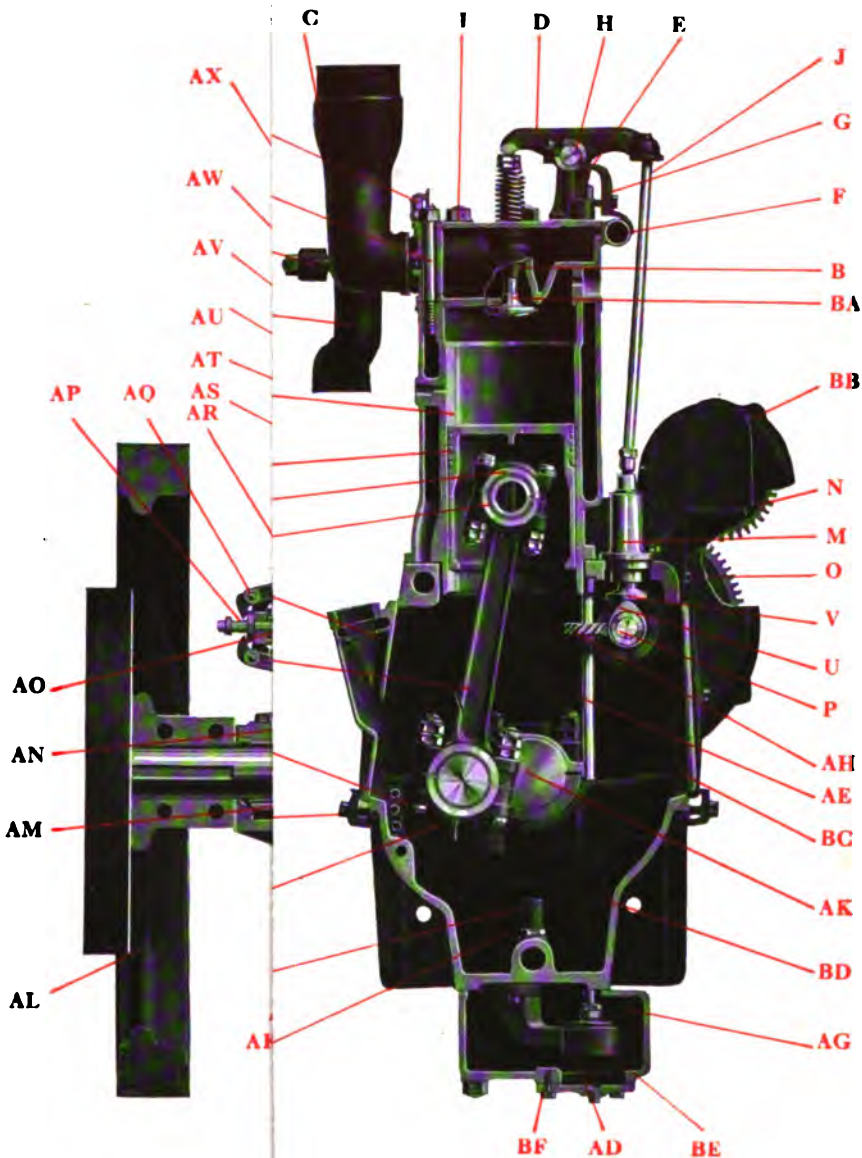

Fig. 4
- 50 — The lubrication of the "75" engine is the splash system with circulating pump. The circulating oil pump is shown in Fig. 4 as BE. A mechanical oiler is employed to deliver oil to the bottom of the pistons on the thrust side (not shown on Figs. 3 or 4).
- 53 — From the oil reservoir AG, the circulating pump BE, Fig. 4, forces the oil to the sight feed distributor AT, Fig. 3, and thence by four distributing pipes to the separate oil pits again, thus maintaining a constant level condition which is taken care of by the overflow pipe. If waste, lint or pieces of carbon clog the oil screen AD, Fig. 3, or the distributor pipes become clogged, the oil level under one or more cylinders may get low and result in damage to the piston and cylinder or bearings. The oil screen AD must be kept clean of all obstruction.
- 55 — To clean the oil screen AD, wipe the bottom of the oil reservoir AG clean and free from dirt. Obtain a clean 5-gallon oil can, remove the oil reservoir plate BF, drain and catch the oil that comes out of AG. This will give direct access to the screen AD and cleaning can be effected. If this adjustment has not entirely remedied the condition, it will be necessary to remove the oil reservoir AG and disassemble the pump BE, Fig. 4. This is accomplished by removing the taper pin in the spiral gear AH, Fig. 4. Remove the cap screw on the pump BE, drop it away from the bottom of the crankcase where it can be readily disassembled. In replacing the pump, be sure that the cap screws are set up tight and that the taper pin is replaced in the spiral gear AH firmly, and cotter pin put back securely.
- 58 — On the magneto side of the engine and opposite each oil pit a drain plug is provided. Drain plugs are also provided in the oil reservoir AG. Remove the drain plugs, catch the oil. Because of the oil tunnel on the bottom of the crankcase, the removal of the final quantity must be effected by hand. Remove plate BF on bottom of oil reservoir AG, Fig. 4, and clean bottom of oil reservoir by hand. Replace BF, replace plugs in crankcase, *fill each compartment with kerosene* till oil level is reached. Pour an extra gallon in one compartment so that the oil reservoir AG will receive enough so that the oil pump BE will pump the kerosene and clean out the supply line and the distributor pipes from the sight feed AT. Replace crankcase doors and start the engine, **ALLOW IT TO RUN FOR TEN SECONDS**, being careful never to exceed this time. Remove plugs in crankcase and oil reservoir, drain off kerosene, allow engine to stand for a while, then wipe oil pits clean with a cloth that does not give off lint. **AFTER WASHING CRANKCASE, FILL WITH CLEAN CYLINDER OIL.** *Time devoted to keeping the oil clean and washing the crankcase when required pays big dividends in freedom from bearing trouble and loss of time due to impaired lubrication.*